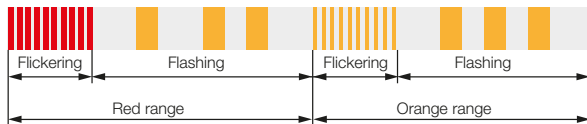

Fig. 8-1: Optical signaling of multiple warnings
In the example shown by Fig. 8-1 Warning 1 and Warning 2 is in the red area. Warning 3 is in the orange area.
- Red range in Fig. 8-1
- Orange range in Fig. 8-1